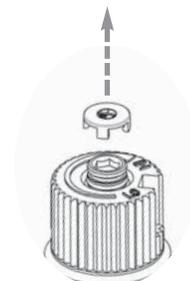

Fig. 1
11) Remove the black protection cap by hand from the high-low knob (Fig.1).